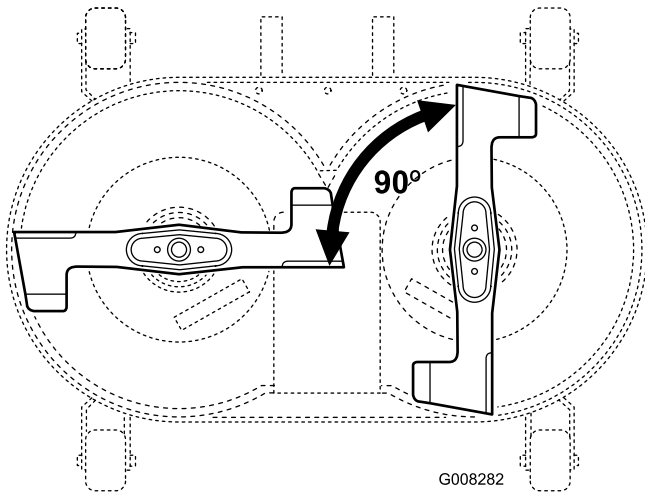

Figure 38
2. Position the blades 90 degrees to each other (Figure 38).